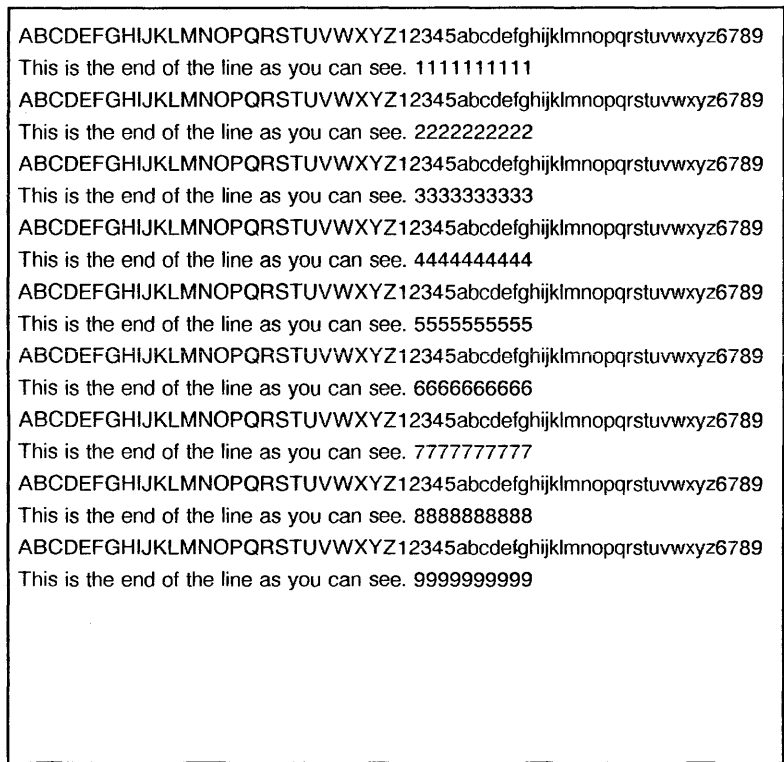

Figure 37A. Print-Out on Printer Port Test
- e. A test pattern should be printed that resembles Figure 37A. If the test pattern is not printed, go to Initial Actions.